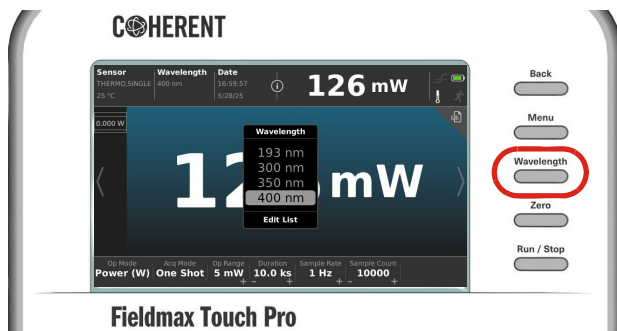

Figure 21. Select Wavelength
8. Press the WAVELENGTH function button, and then select the wavelength to be measured. Refer to Figure 21.